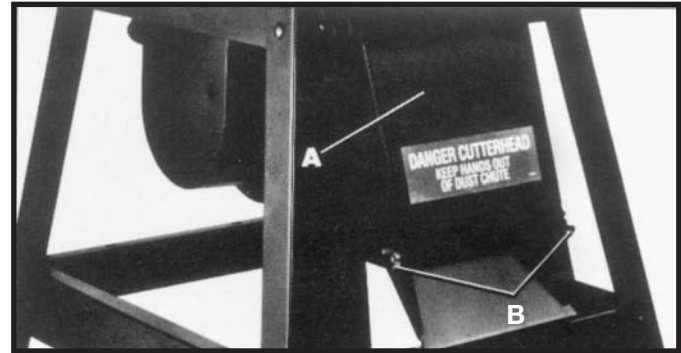

Fig. 71
The dust chute cover (A) Fig. 71, can be removed, for cleaning purposes, by removing the two wing screws (B).
**⚠ WARNING** MAKE CERTAIN THE MACHINE IS DISCONNECTED FROM THE POWER SOURCE BEFORE REMOVING THE DUST CHUTE COVER. THE DUST CHUTE COVER (A) MUST ALWAYS BE ASSEMBLED TO THE DUST CHUTE DURING OPERATION.